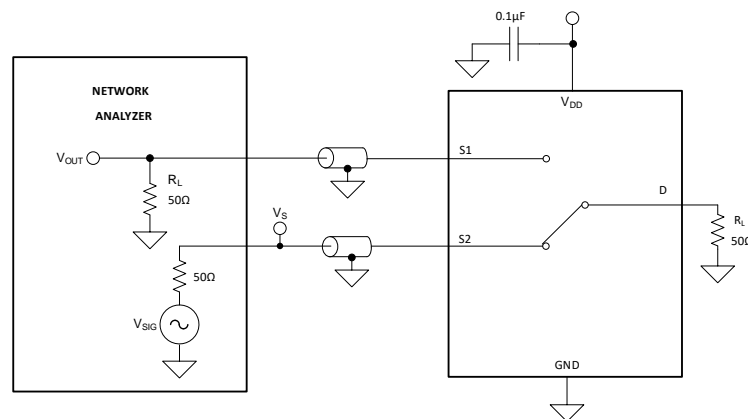

图 14. Crosstalk Measurement Setup
Crosstalk is defined as the ratio of the signal at the drain pin (D) of a different channel, when a signal is applied at the source pin (Sx) of an on-channel. 图 14 shows the setup used to measure, and the equation used to calculate crosstalk.